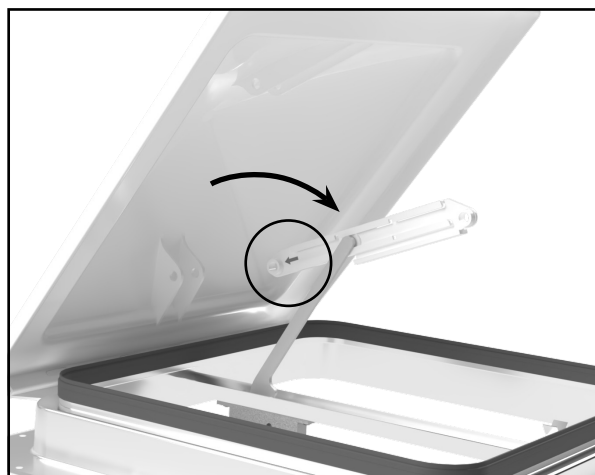

Figure 12
- d. Tip the lid back up and install the universal cross bar onto the lift arm roller with the indicator arrow pointing forward/towards the hinge. **(Figure 12)**
- e. Rotate the lid towards the installed cross bar and install the universal cross bar into the lid. **(Figure 12)**